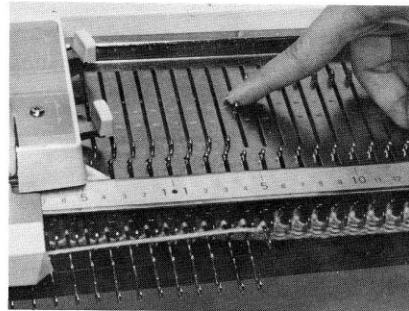

Fig.60
- *In order to avoid making a hole, push forward into position (E) the inside end needle in position (B), nearest the needles in position (E), as shown in Fig.60. Knit one row.
- *Push forward into position (E) the inside end needle in position (E), as shown in Fig.60. Knit one row.